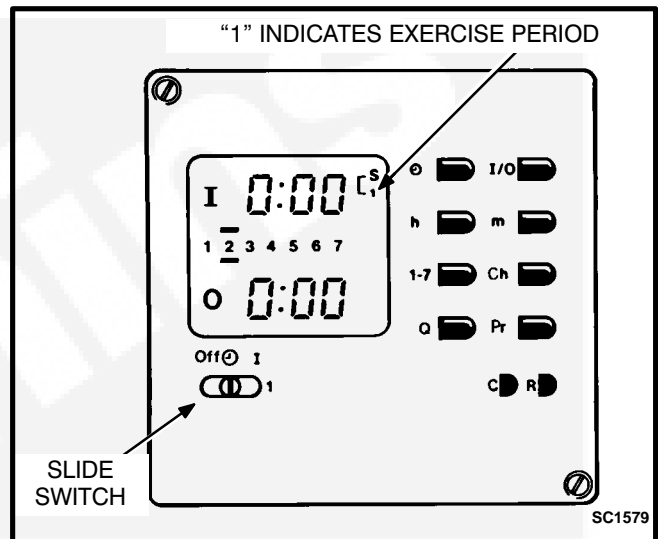

FIGURE 4-1. EXERCISER CLOCK
3. Check the exerciser clock to see if it is in an exercise period. When the exerciser clock is in an exercise period, a “1” appears in the upper right-hand corner of the display window (Figure 4-1). You can view the display by looking through the transparent clock cover. Check that the red slide switch is in the center position.
2. Check the exerciser clock to see if it is in an exercise period. When the exerciser clock is in an exercise period, a “1” appears in the upper right-hand corner of the display window (Figure 4-1). You can view the display by looking through the transparent clock cover.